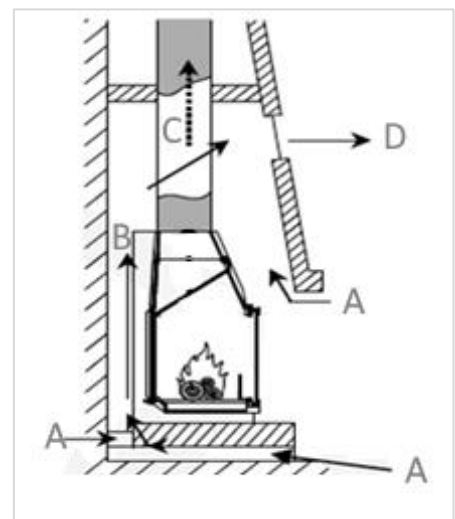

Figure 3
3. **HEAT FROM CONVECTION.** To distribute the convection heat generated inside the building, ventilation grilles (one at the bottom and one at the top) must be installed. This creates a flow of air in and out of the building. See figure 3 for an example of air flow due to convection.